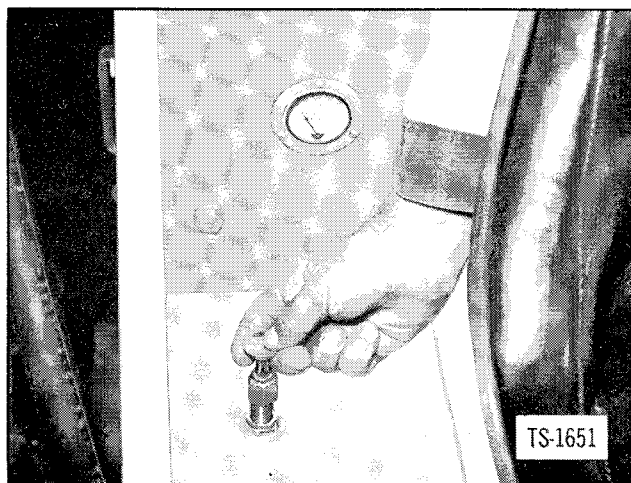

Fig. 5. Preheater Priming Pump (Cummins Diesel)
3. As engine rotates, operate preheater priming pump to maintain 40 to 60 psi fuel pressure as shown in Figure 5. Use of primer before 20 second interval will wet glow plug and prevent heating. **Do not use starting fluid in any form.**